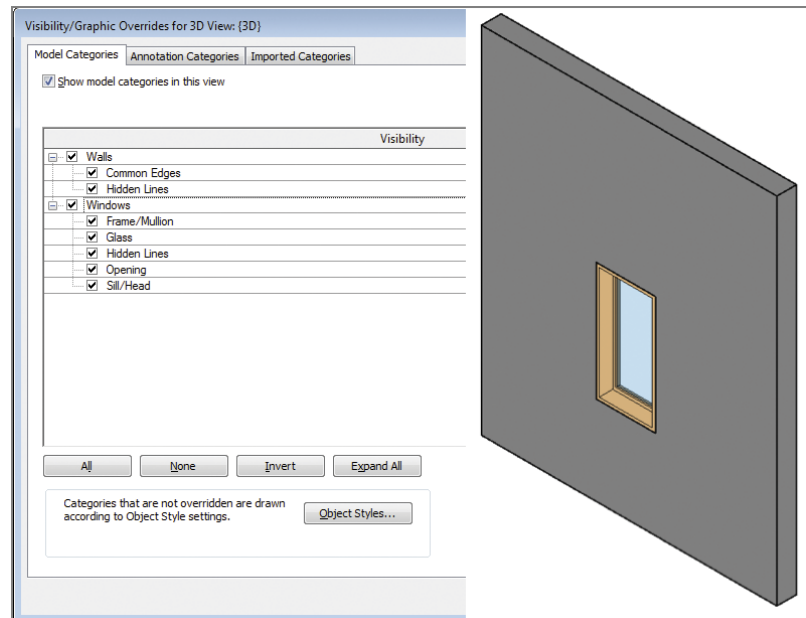

FIGURE 6.20 Visibility/Graphic Overrides for the view
3. Press **VV** on the keyboard to access Visibility/Graphic Overrides (the left image in Figure 6.20). Make sure the Walls category is checked as shown and click OK. The 3D view now resembles the image on the right in Figure 6.20. Use Zoom To Fit to adjust your view.